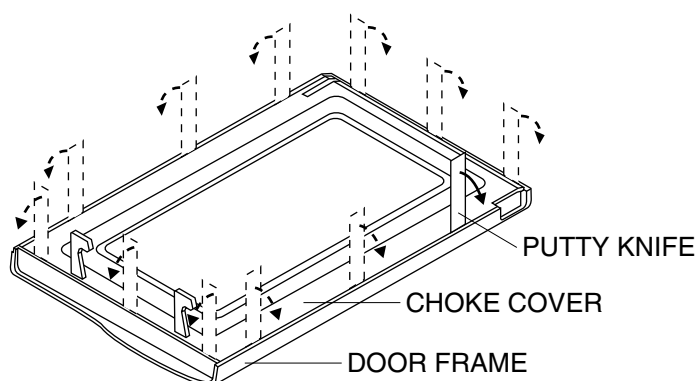

Figure C-5. Door Disassembly
3. Insert a putty knife (thickness of about 0.5mm) into the gap between the choke cover and door frame as shown in Figure C-5 to free engaging parts.